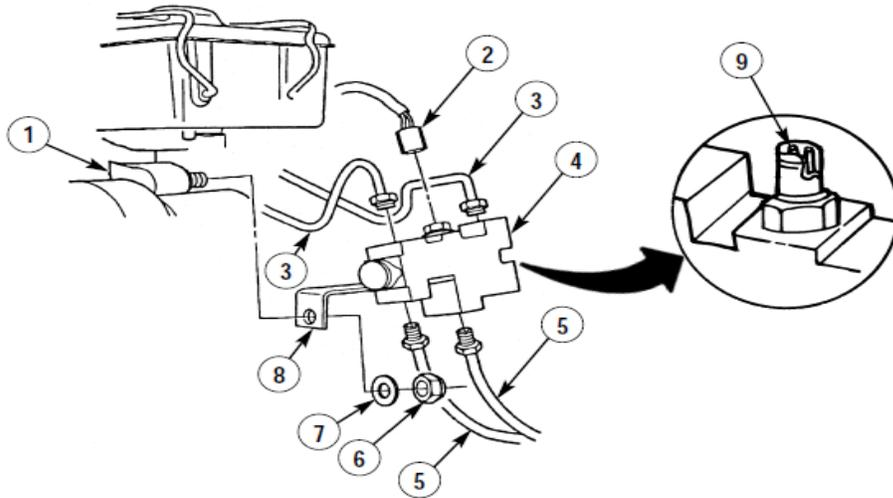

Figure 71
jj. Final Inspection / General Information. Refer to TM 9-2320-387-24-1 Chapters 1 and 2 and **Figures 71** through **73** contained in these instructions.
- (1) Differential Valve and Mount:
- (a) Inspect to ensure that the Differential Valve (4), which is mounted to the Differential Valve Mounting Bracket (8) as shown in **Figure 71**, does not come into contact with the face plate on the front of the 400 Amp Alternator.